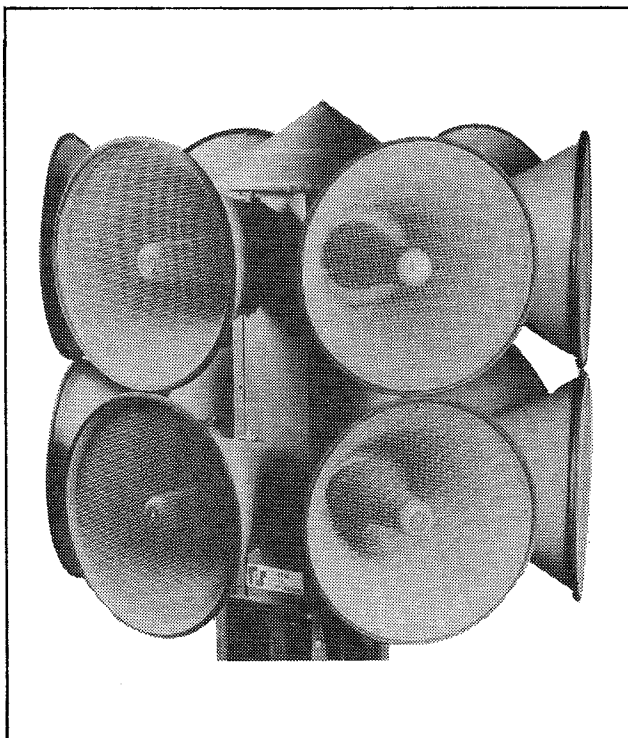

Figure 1-2. Model EOWS*1212 Speaker Array.
1. Model EOWS*1212 (figure 1-2).